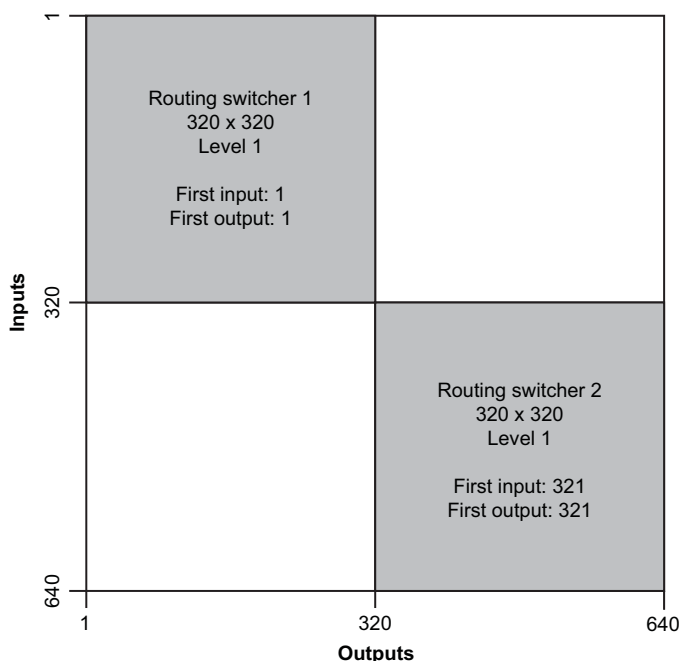

Figure 4.7 Offsetting Two Routing Switchers for Independent Inputs and Outputs
- with independent inputs and outputs (see **Figure 4.7**)